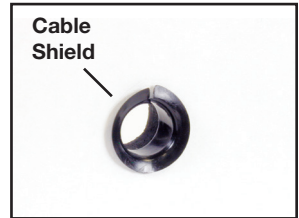

Figure 3 - Insert cable shield from back side
1. Insert a Cable Shield into the spindle hole from the back side of the container door. (Figure 3)